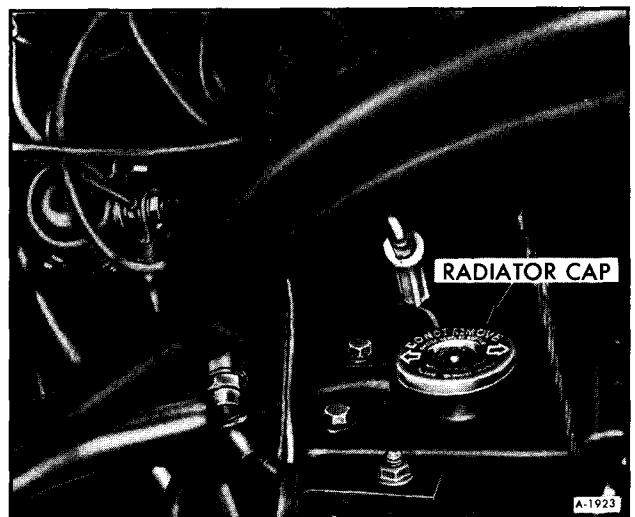

Figure 6—Radiator Cap
5. Remove four (4) nuts attaching fan clutch to water pump hub. See Figure 6. Position fan and fan clutch assembly forward in the shroud. Be careful not to allow the assembly to damage the radiator core.
6. Install fan and fan clutch assembly. Torque four (4) nuts to 15 ft. lbs. (See figure 6).
4. Remove the four (4) nuts attaching fan clutch to water pump hub (See figure 6).
5. With assembly in the shroud area and removed from the hub, remove the four (4) attaching bolts that secures fan clutch.
2. Install four (4) attaching bolts that secure the fan to the fan clutch and torque to 20 ft. lbs. (See figure 6).